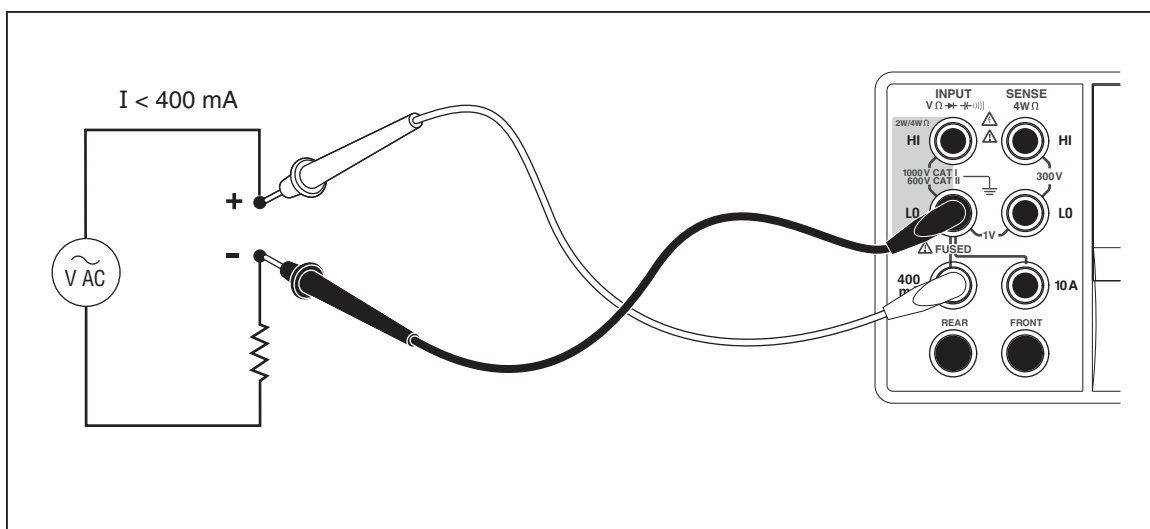
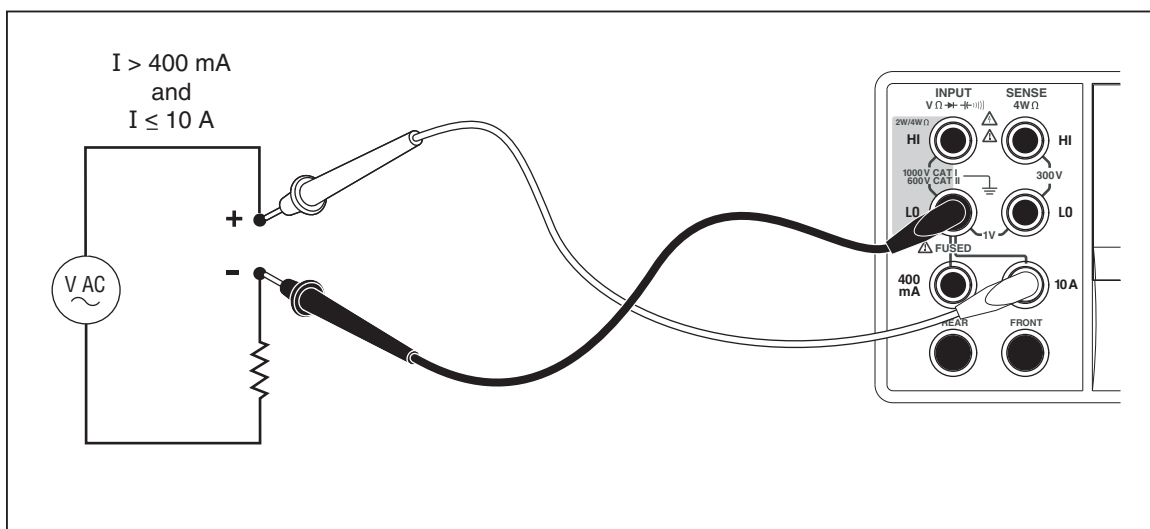

Figure 4-4. Input Connections for Current Measurements Below 400 mA
Figure 4-5. Input Connections for Current Measurements Above 400 mA
The Meter is capable of making both ac and dc current measurements up to 10 A. Two separate input connectors, in conjunction with the **LO** connector, are used for current measurements. For best resolution, current measurements not exceeding 400 mA should be made using the **LO** and **mA** input connectors as shown in Figure 4-4.
Current measurements expecting to be between 400 mA and 10 A are made using the **Input LO** and **10A** input connectors as shown in Figure 4-5.
1. Connect the test leads between the Meter’s input connectors and the measured circuit as shown in Figure 4-4 for currents 400 mA or less or Figure 4-5 for currents up to 10 amps.
1. Connect the test leads between the Meter's input connectors and the measured circuit as shown in Figure 4-4 or Figure 4-5, based on the anticipated level of current.